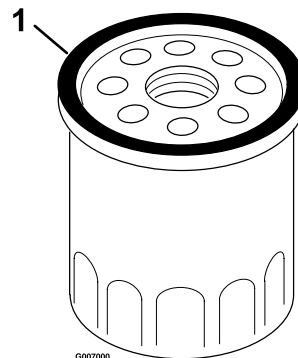

Figure 25
7. Use your finger to coat the gasket on the new filter with clean engine oil (see Figure 25).